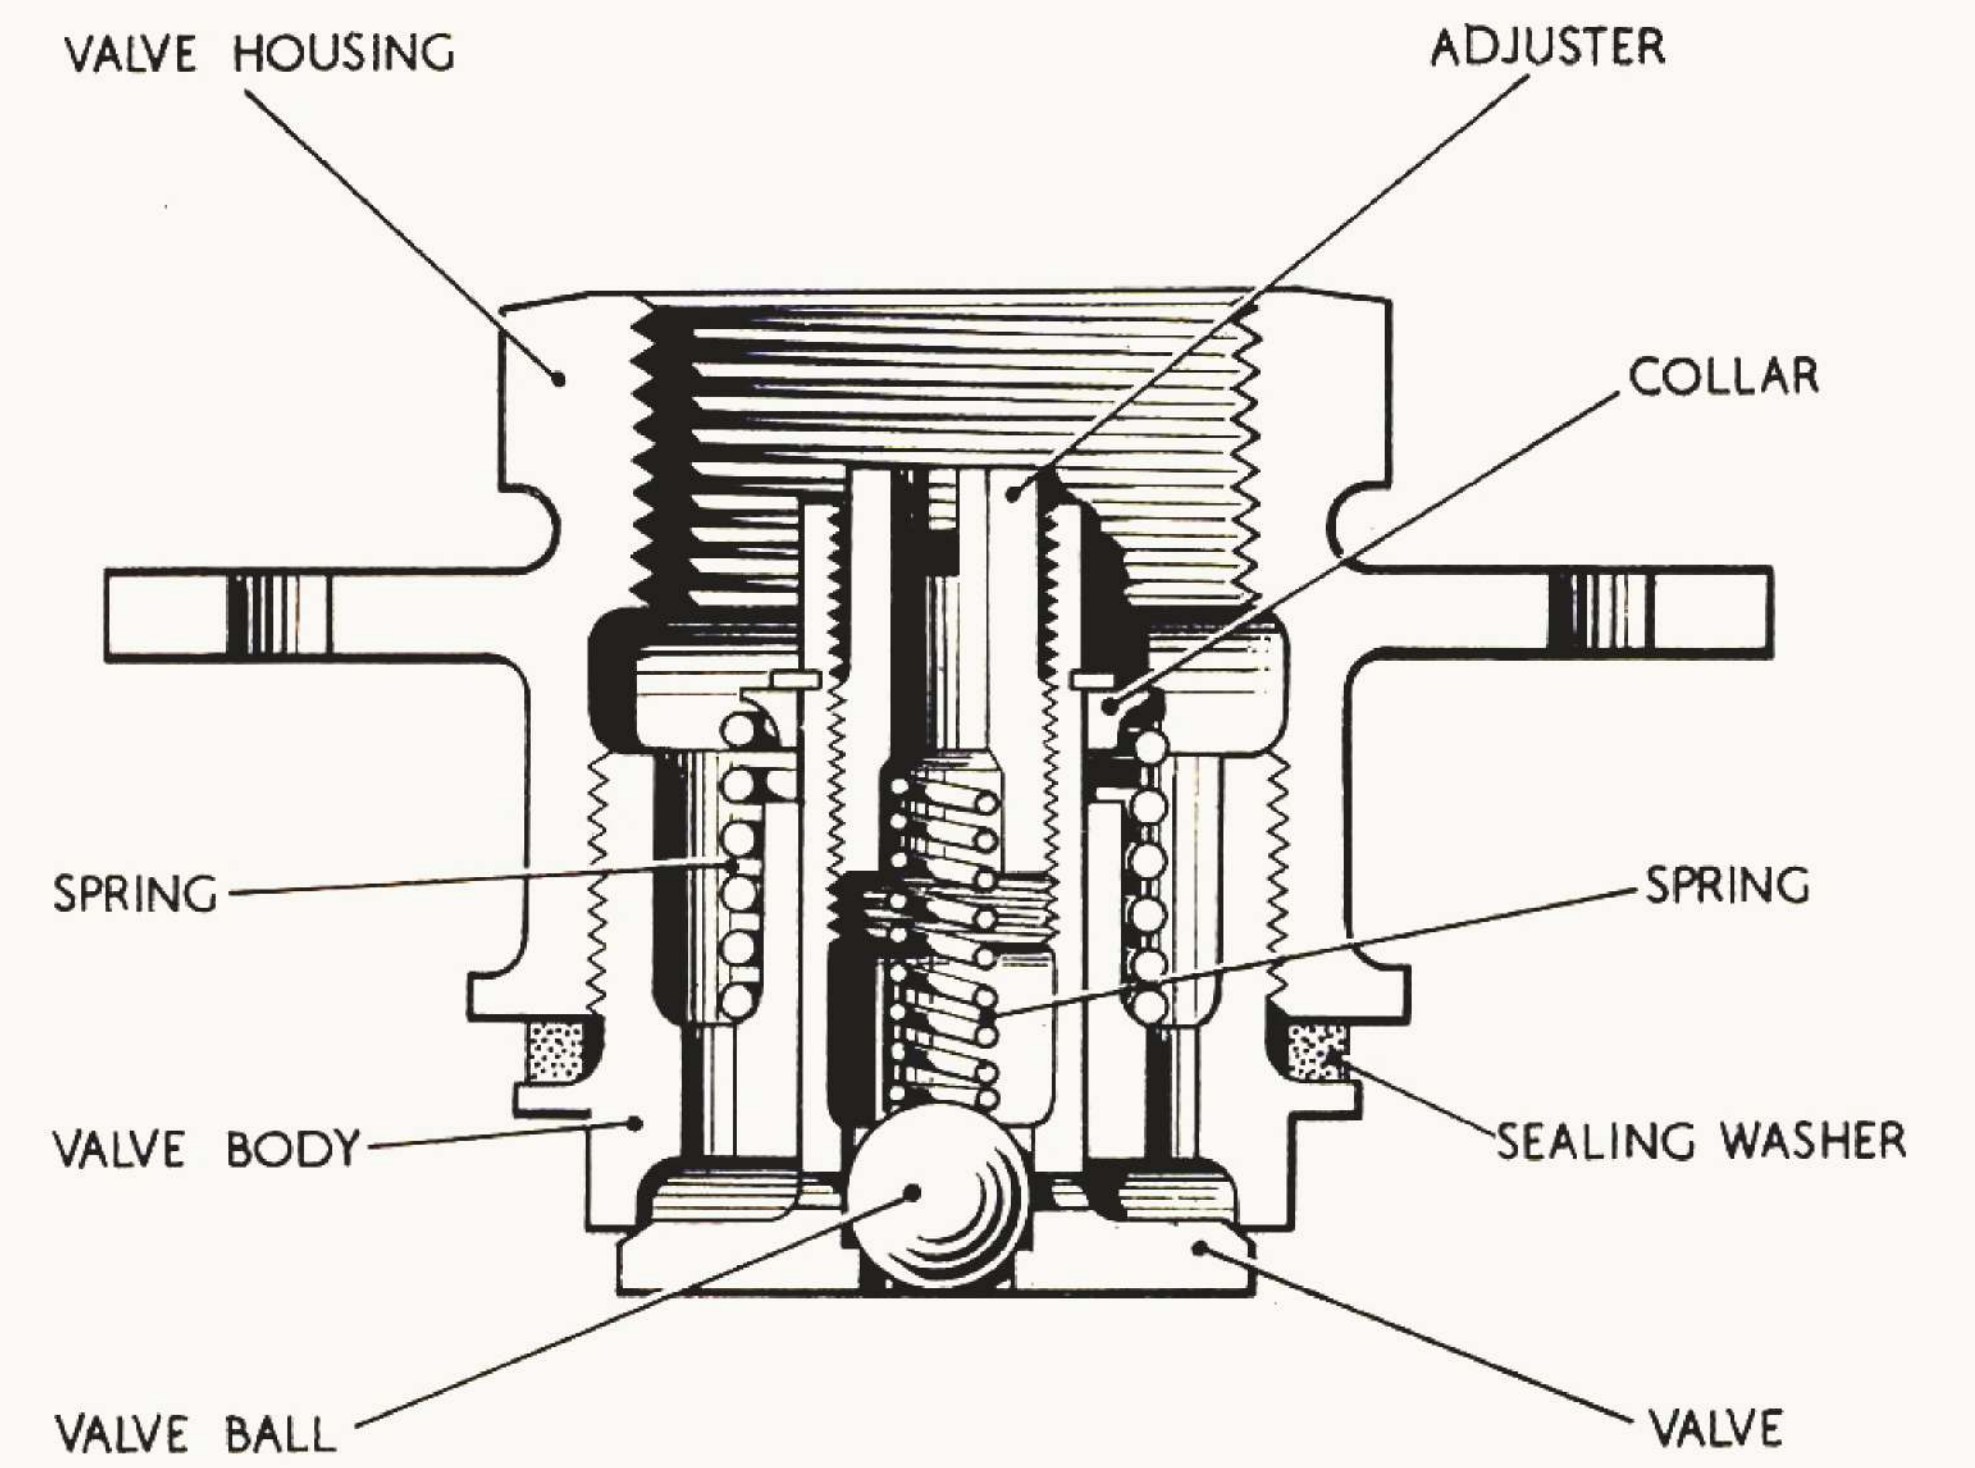

FIG.7. COMBINED PRESSURE RELIEF & SUCTION VALVE
17. The removal of the engine entails jacking up the aircraft at the specially prepared positions as shown in Sect.2, Chap.4, Fig.4 (with the exception of the rear fuselage) and the fitting of additional trestles under the centre fuselage as shown in Sect.3, Chap.1, Fig.7. When jacked, the alighting gear should be in the fully extended position with the wheels two or three inches off the ground and care should be taken to ensure that the aircraft is level in a fore and aft as well as in a lateral sense.
Place additional trestles under the centre fuselage as shown in Sect.3, Chap.1, Fig.7.